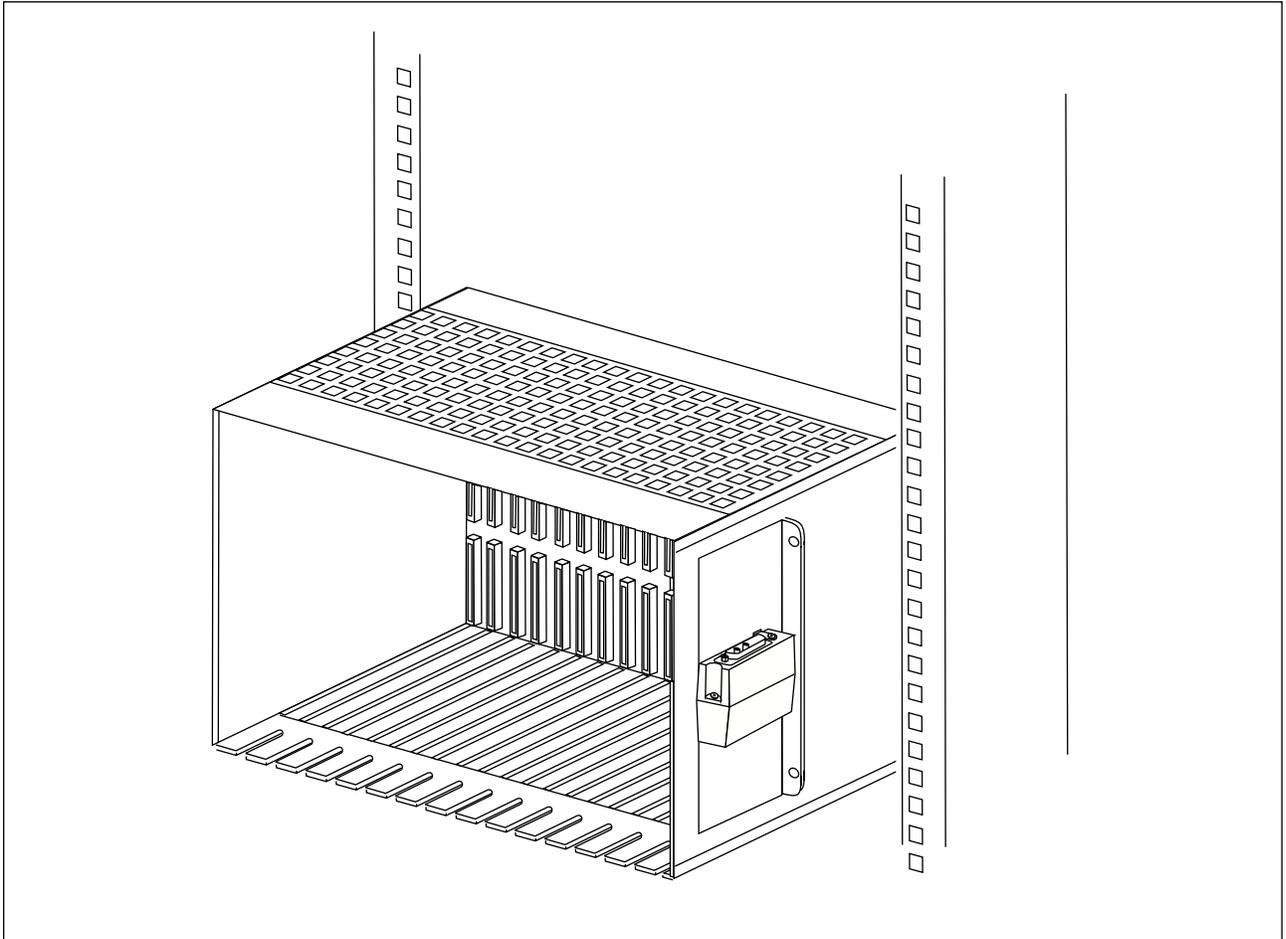

Figure 6-6. CRI Magazine Removal
11. Hold the CRI magazine in position, and use a Torx TX30 screwdriver to loosen and remove the four mounting screws (Figure 6-6 on page 6-21).